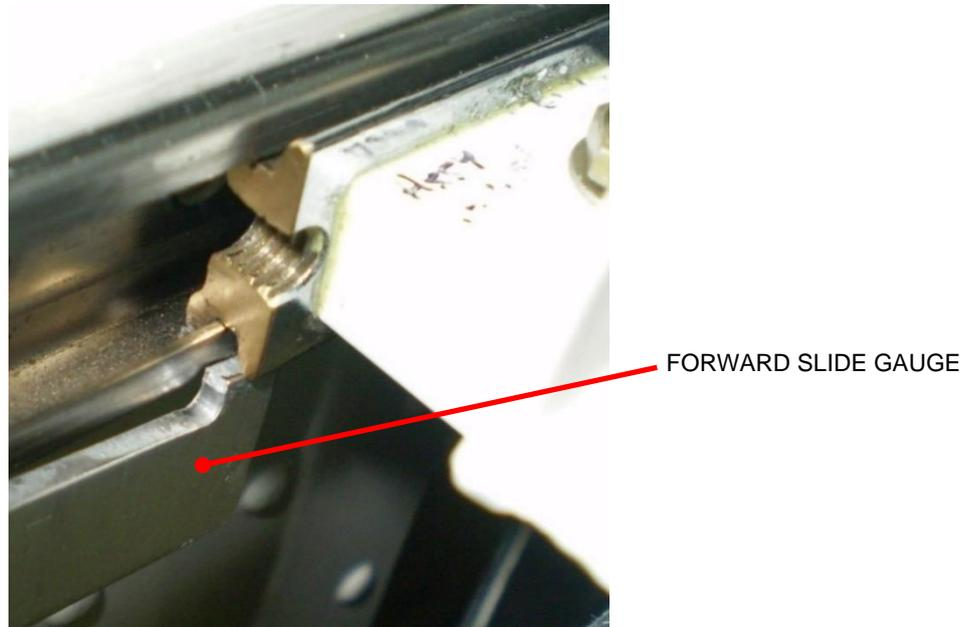

Figure 5: Checking with the Forward Slide Gauge. Note that all four corners require checking.
2. Try to insert the Forward Slide Gauge (Item 8 in Table 3) between the slider and the track as shown in Figure 5 and Figure 6 below. Standard Feeler gauges made up to 0.098" (0.023"+0.024"+0.025"+0.026") may also be used.